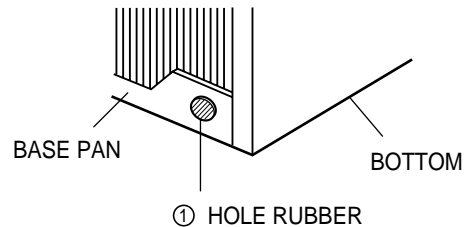

Figure 19
If the air conditioner is used in hot and a high humidity zone, exchange the ① HOLE RUBBER for the ② DRAIN PIPE. (See figure 19, figure 20.)